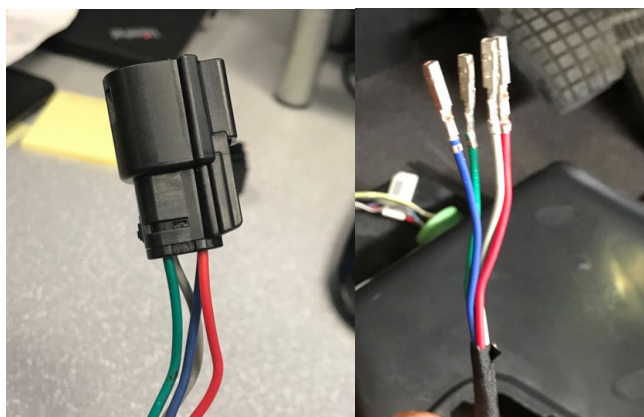
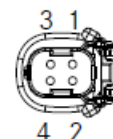

Fig. 10, Remove the Battery Load Disconnect Switch Connector
Fig. 11, Battery Load Disconnect Switch Connector Details
- 9.4. Temporarily remove the connector, shown in **Fig. 10**, from the battery load disconnect switch end of the new harness. Use tool DK10CHA17002-2 or a similar tool to remove the terminals from the connector, shown in **Fig. 11**. Make note of the cavity position of each wire removed for installation later.
Make sure each wire is installed in the correct cavity position. See **Fig. 11**.